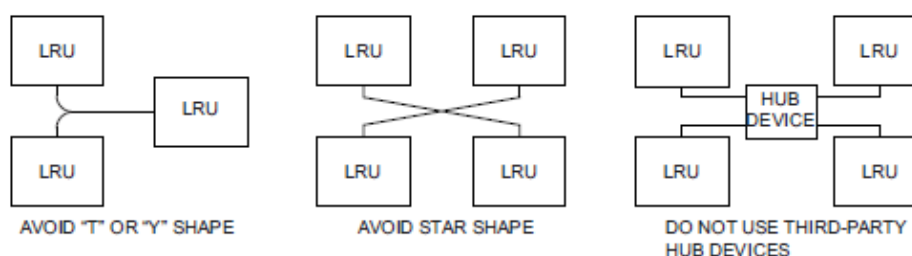

Figure 3-3 Incorrect CAN Wiring Example
- The CAN bus backbone must be a single linear path with exactly two distinct ends. CAN bus connections should be “daisy chained” from device to device. Avoid “star” and “Y” topologies, and do not use a hub device (see Figure 3-3).